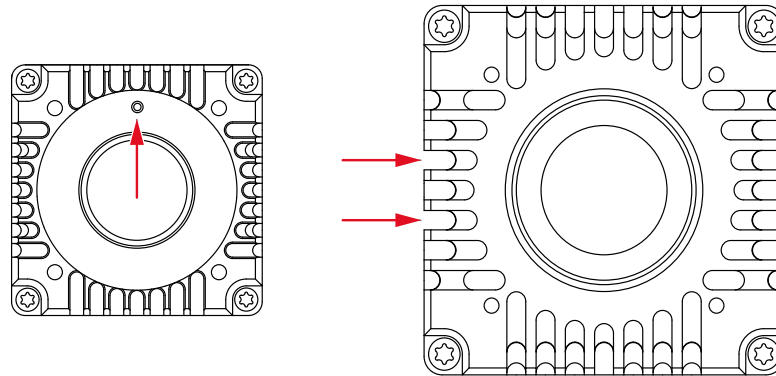

Figure 54: Position of safety screws on mount adapters: Goldeye G/CL (left) and Goldeye G/CL Cool (right)
See Figure 54 for the position of the locking screws.
- Loosen the locking screw (2, shown from back of adapter) on the outside of the mount adapter. See Figure 54 on page 189 for the position of the locking screws.
2. Unscrew the adapter (1) from the camera.